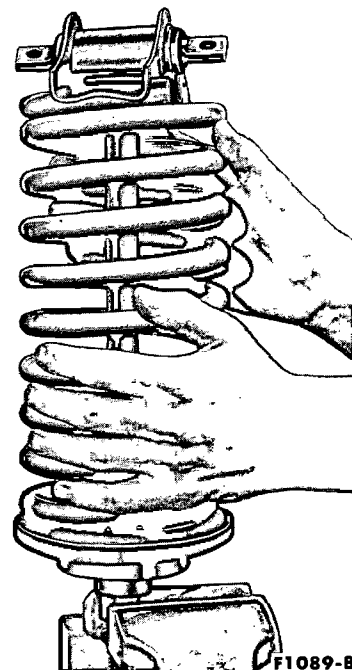

FIG. 6—Spring Replacement
1. If the spring is to be replaced, measure the spring height compressed in the tool. Place the tool nut in a vise and rotate the assembly by hand until the spring is decompressed (Fig. 6).